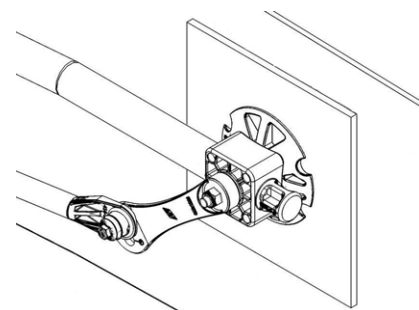

Figure 12
10. From the inside of the vehicle under the hood, push the pivot shafts through the pivot shaft holes until the inner spherical spacer (AME part #407-1102) is flush with the 1/4" spacer. (Figure 12)